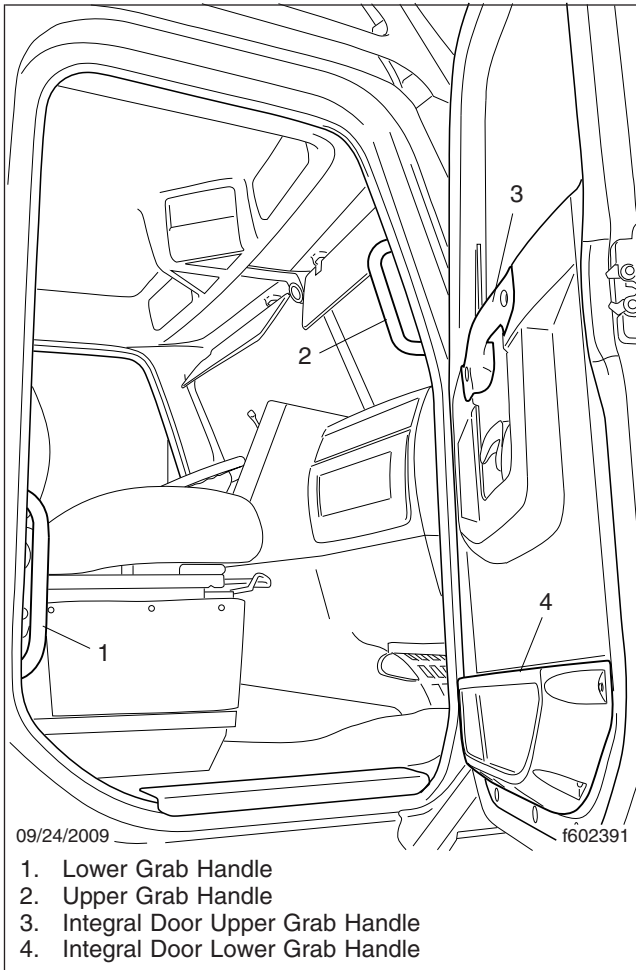

Fig. 2.4, Passenger-Side Steps and Grab Handles
2. Using your left hand, grasp the grab handle that's on the rear of the door opening. See Fig. 2.4.
3. Move your left hand to the lower grab handle located at the rear edge of the door opening. See Fig. 2.4.